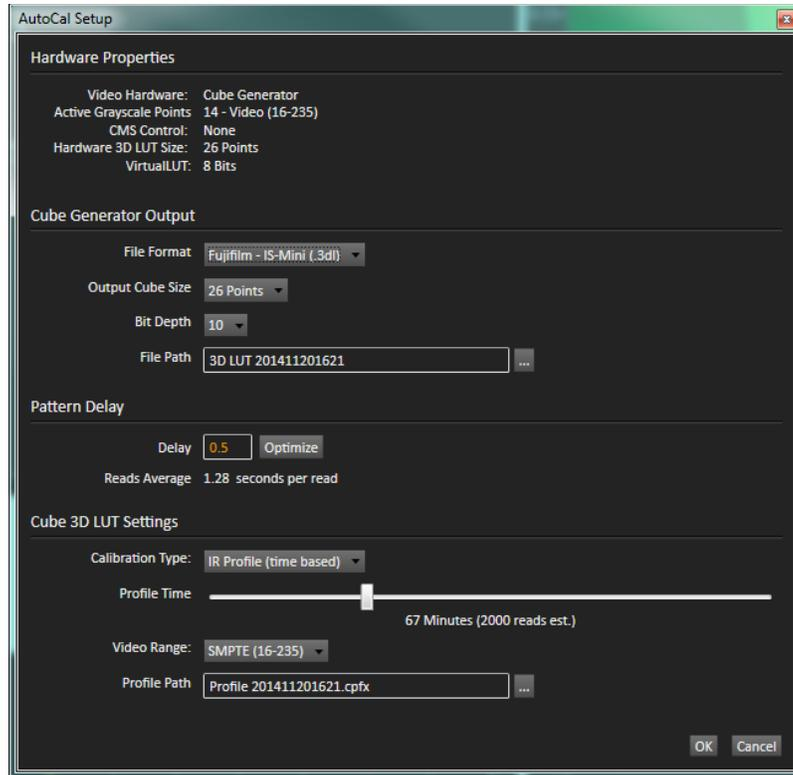

Figure 1. CalMAN AutoCal Setup dialog, for selecting 3D LUT creation options.
6. On the *3D Cube LUT* page, click the *AutoCal* (rotating arrows) button at the right end of the meter action buttons. The *AutoCal Setup* dialog then appears (Figure 1).